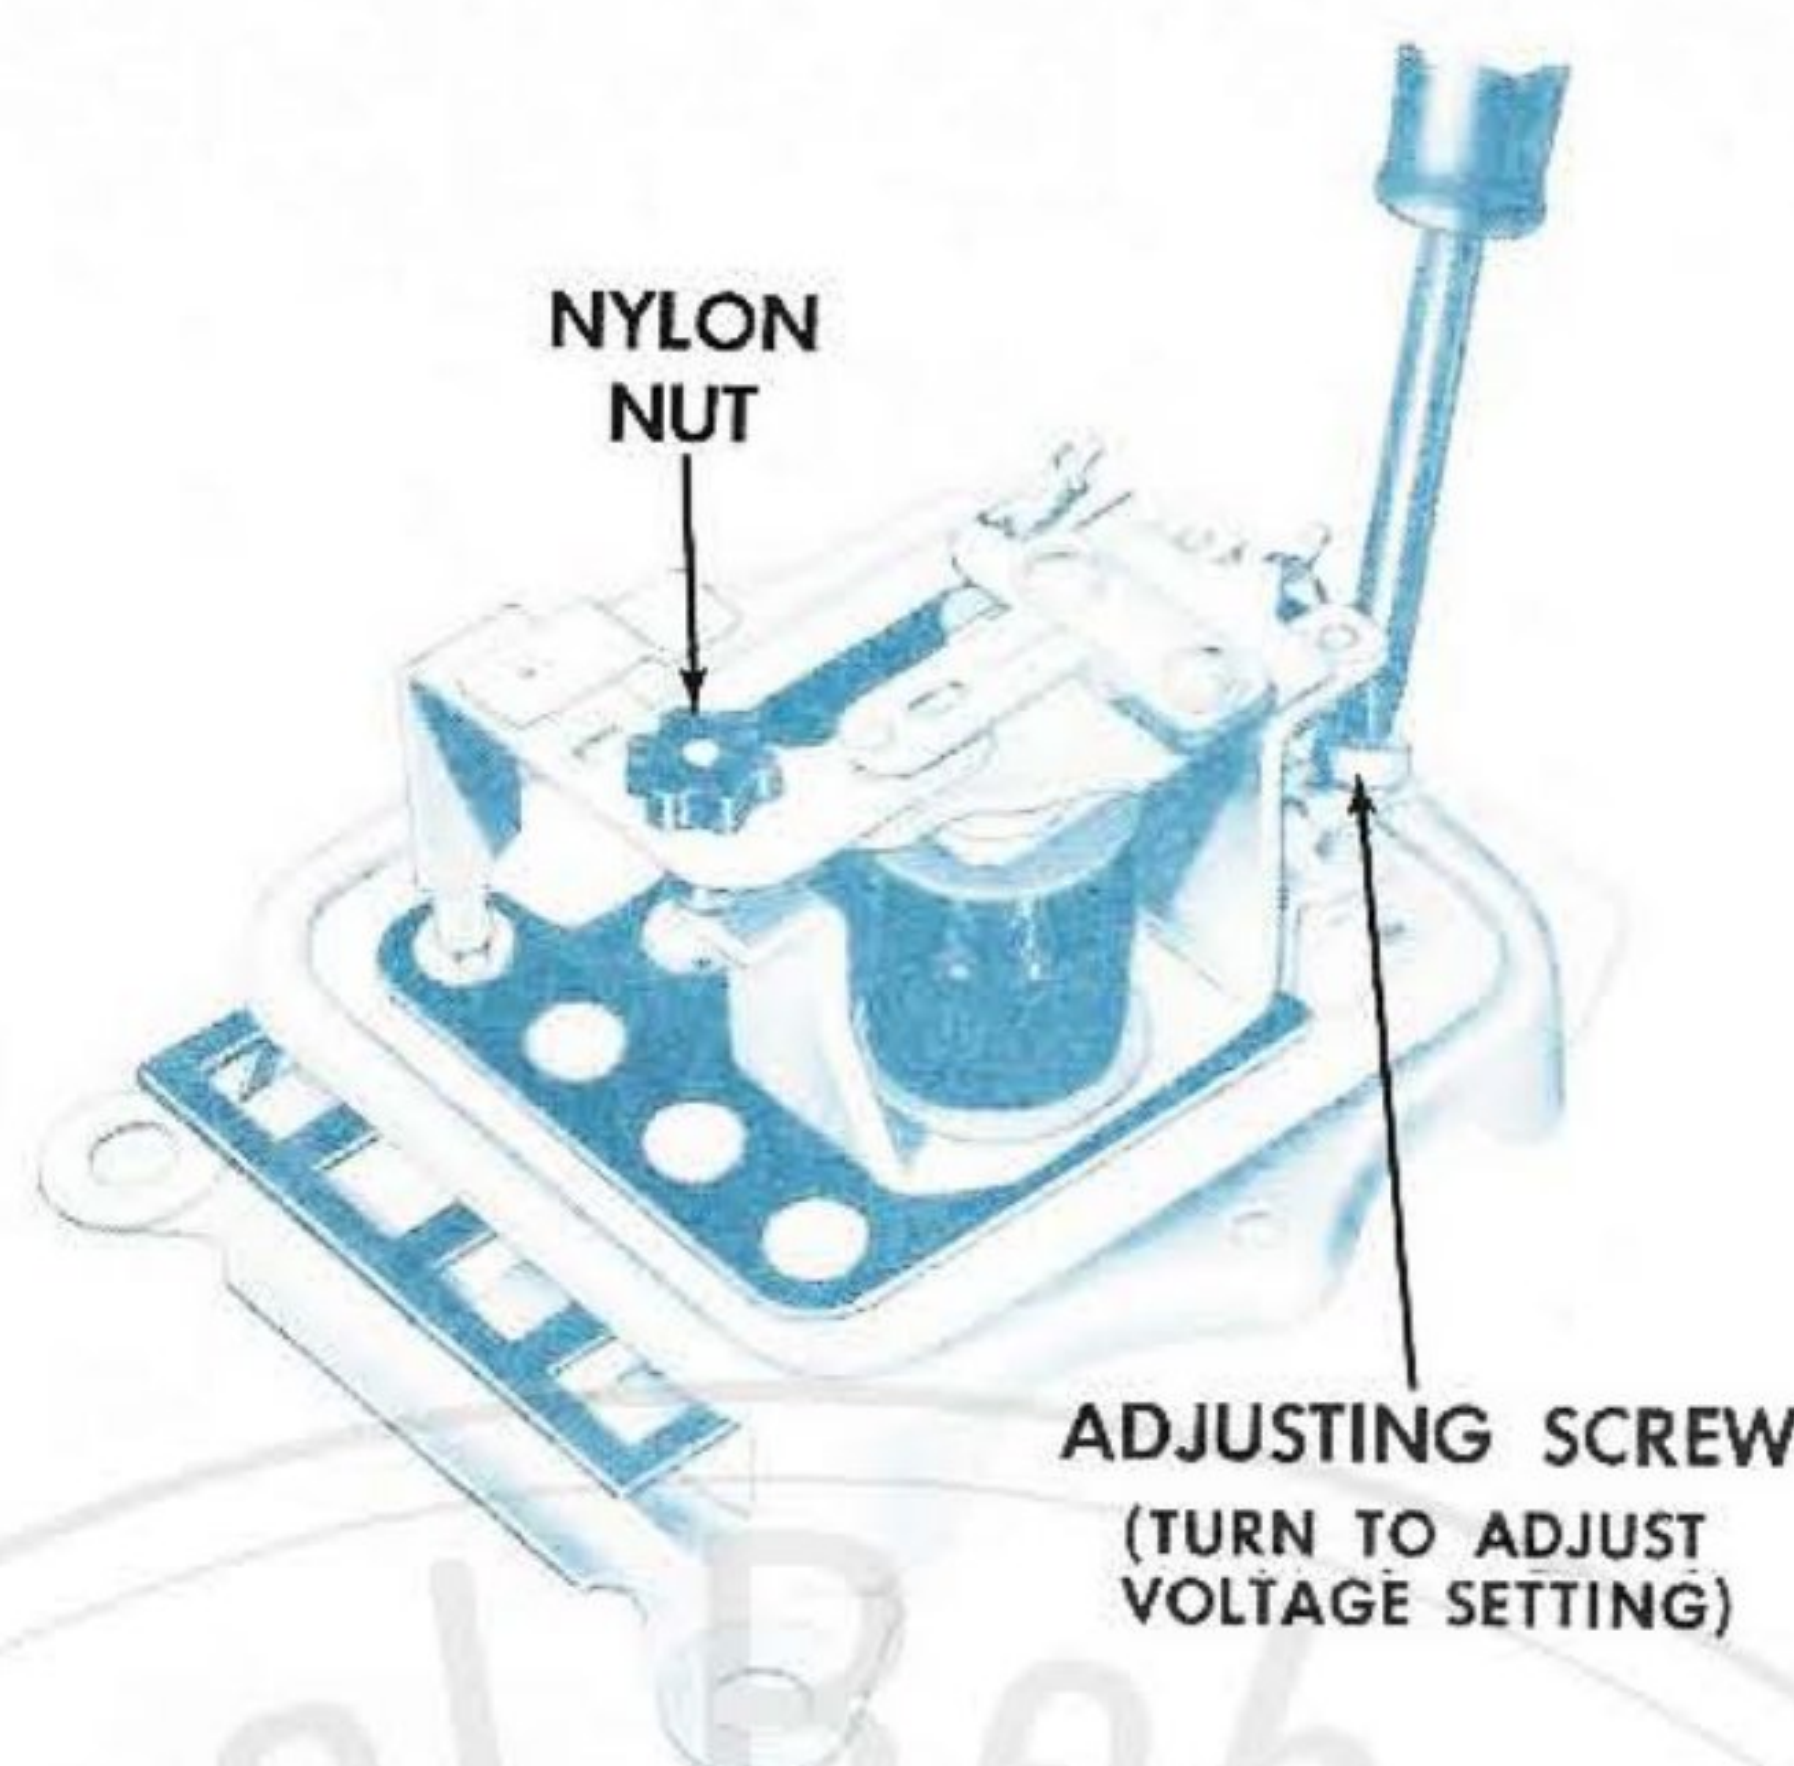

Figure 5—Adjusting voltage setting.
- b. Turn **adjusting screw** as shown in Figure 5.
12. To decrease the difference in voltage between upper and lower contact operation, turn the nylon nut (Fig. 5) clockwise a slight amount. To increase the difference turn nylon nut counterclockwise. If this adjustment is made, the voltage setting must be re-checked as covered in Steps 5 through 11.